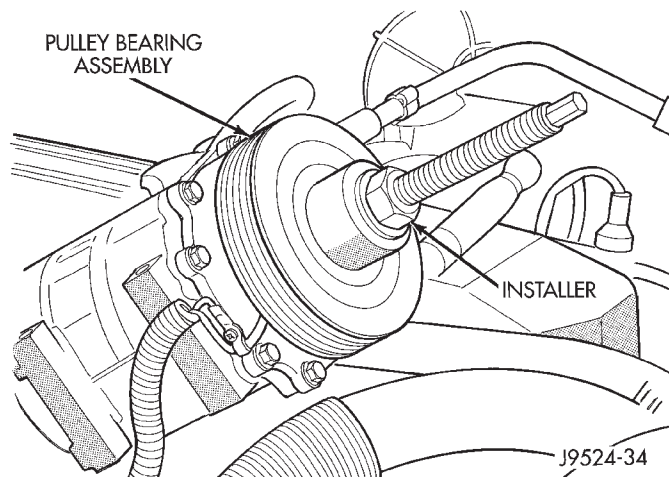

Fig. 25 Clutch Pulley Install
- (1) Install the clutch field coil and snap ring.
- (2) Install the clutch coil lead wire harness retaining clip on the compressor front housing and tighten the retaining screw.
- (3) Align the rotor assembly squarely on the front compressor housing hub.
- (4) Install the pulley bearing assembly with the installer (Special Tool C-6871) (Fig. 25). Thread the installer on the shaft, then turn the nut until the pulley assembly is seated.